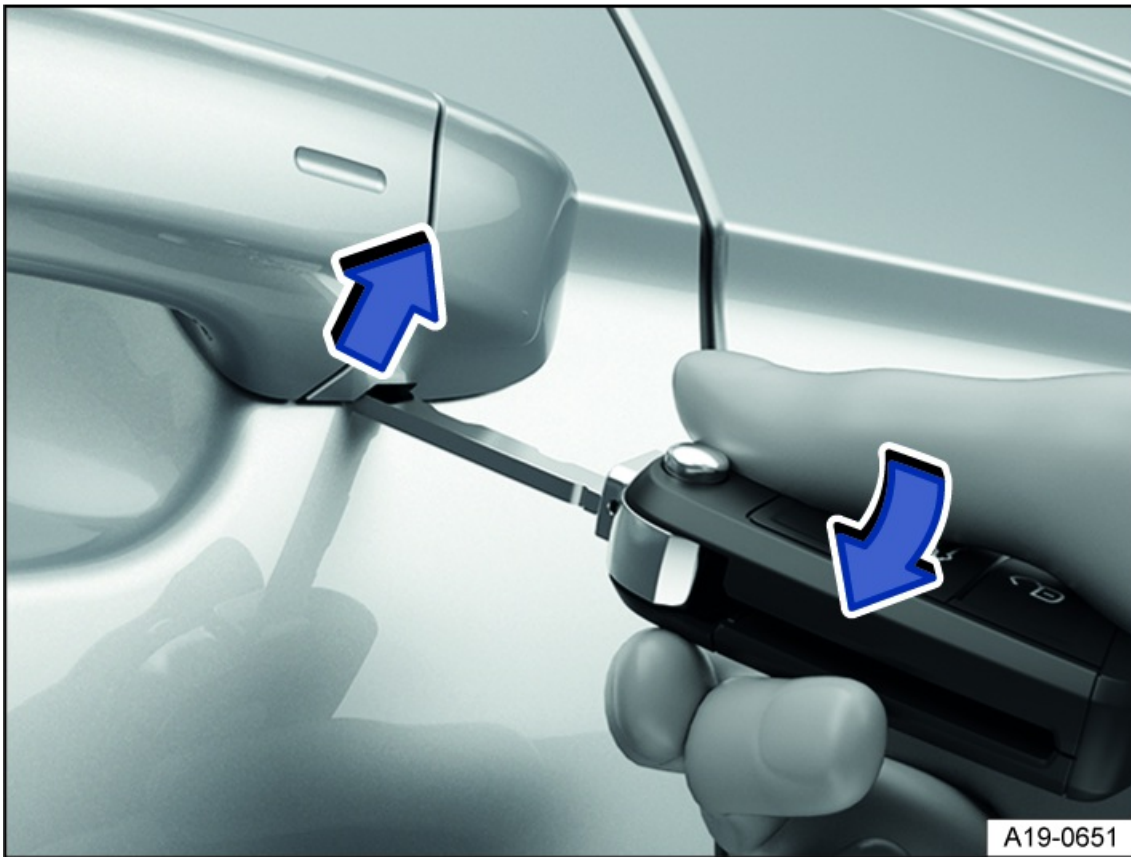

Fig. 46 Driver's door handle: prying off the cap.
3. Use the vehicle key to pry the cap off in the direction of the arrow fig. 46.